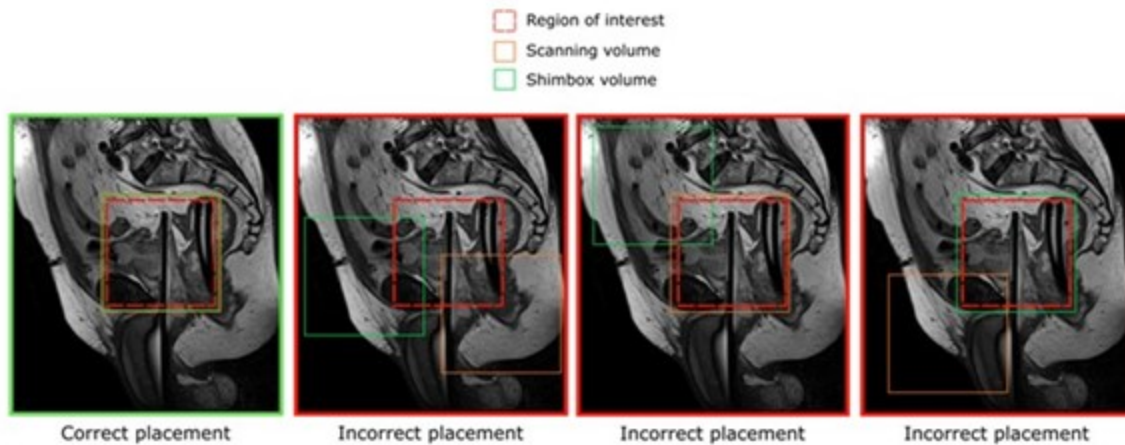

Figure 36: Examples of correct and incorrect placements of the shim box
1. **MRI Technologist:** Open AX THERM for editing in the **Offc/Ang** tab, change the AP, RL, and FH values for both *Stack Offc.* and *Ang* (Figure 37). to match those in TDC. Do the same for the shim volume. If the shim volume includes more than just the patient anatomy (such as air), reduce the size of the shim box (Figure 36).